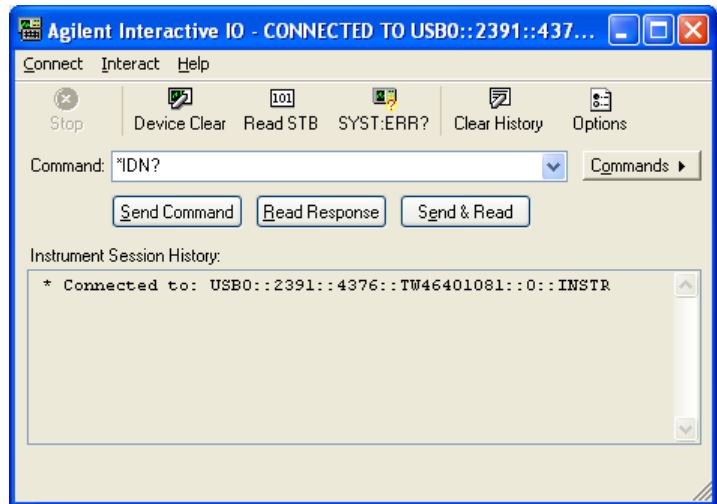

Figure 2-8 Interactive IO dialog box
- 5 The **Agilent Interactive IO** dialog box will appear as shown in Figure 2-8. Click **Send & Read** to send the “*IDN?” default command. This instrument’s response should appear in the **Instrument Session History** panel.